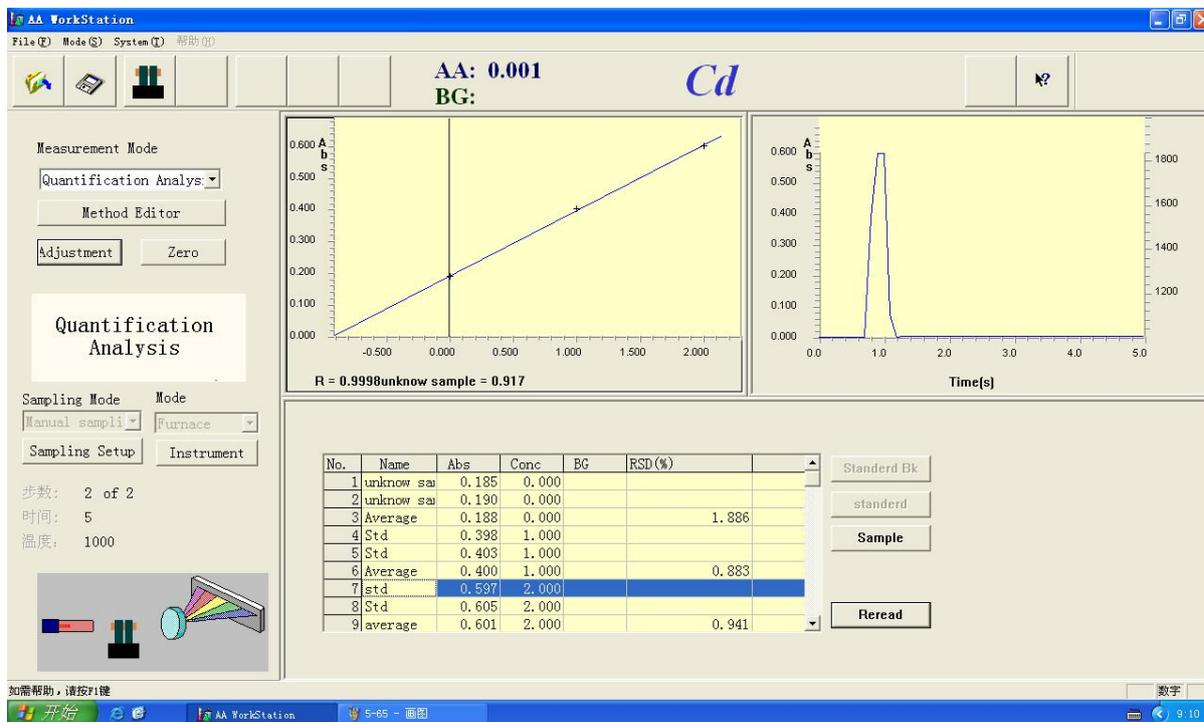

Figure 5-66
3. Press “Start” start to heating, when a warning tone of “du” sounds shows the reread is over, Figure 5-66 pops up.
The name of the samples can be changed according to the user's requirements. For example, when you want to change the sample's name of No.7 in the figure 5-66, please click on the name twice, delete the name and input new name, display the figure Figure 5-67